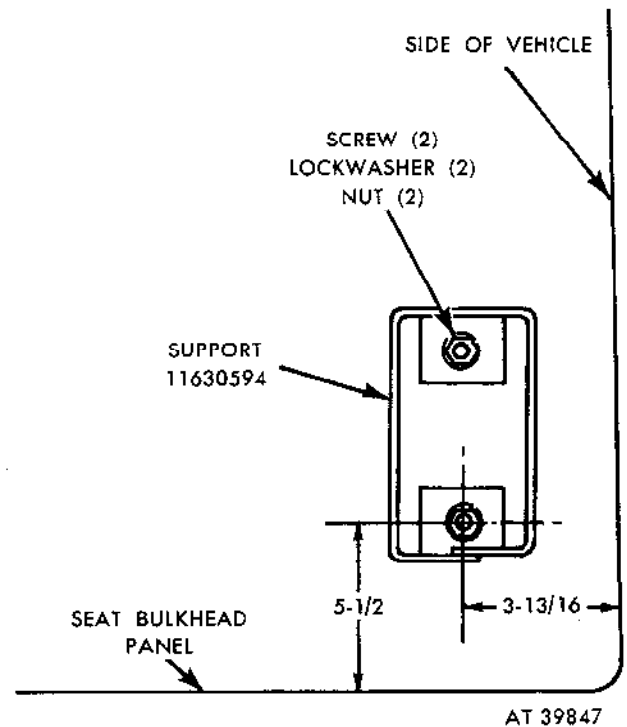

Figure 3-40. Mounting bracket—installed (right side).
(1) Position rifle mounting bracket (1) on the vehicle floor as indicated in figure 3-40.
(2) Locate position for hole A by measuring on the vehicle floor from the seat bulkhead panel and the vehicle side panel, as indicated in figure 3-40.
(3) Mark center for hole A in vehicle floor. Remove bracket and drill a 5/16 inch diameter hole through vehicle floor.
(4) Install and secure rifle mounting bracket to the vehicle floor with a capscREW (12), a lockwasher (8) and a nut (9).
(5) Tighten the nut sufficiently to hold the mounting bracket in position, as indicated in figure 3-40.